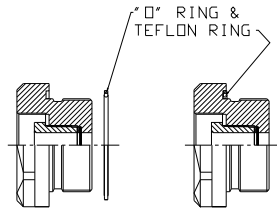

FIGURE 1
2. Install "O" ring and Teflon ring in groove of 9165 body. SEE FIGURE 1